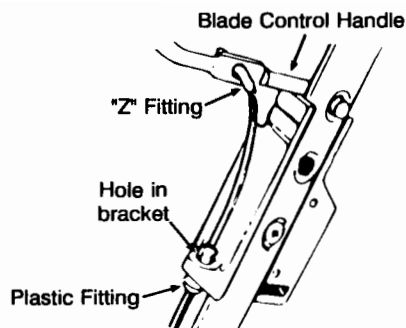

Figure 3
the brake cable over the lower handle. Place end of cable through the hole in the bracket as shown in figure 3. Push the plastic fitting until it locks into the hole.
- Move the blade control handle away from the upper handle. Hook the "Z" end of the brake cable into the hole in the blade control handle from the outside to the inside as shown in figure 3.